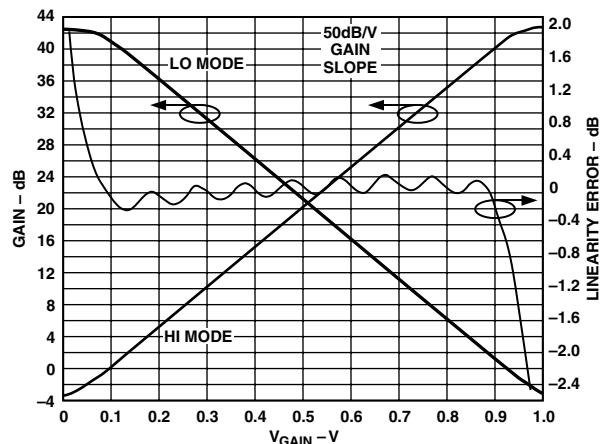

Figure 2. The gain function can be either an increasing or decreasing function of V_{GAIN} depending on the MODE pin.
The gain of the AD8367 can be an increasing or decreasing function of the control voltage, V_{GAIN}, depending on whether the MODE pin is pulled up to the positive supply or down to ground. When the MODE pin is high, the gain increases with V_{GAIN} as shown in Figure 2. The ideal linear-in-dB scaled transfer function is given by,
where V_{GAIN} is expressed in volts. Equation 1 contains the gain scaling factor of 50 dB/V (20 mV/dB) and the gain intercept of -5 dB which represents the extrapolated gain for V_{GAIN} = 0 V. The gain ranges from -2.5 dB to 42.5 dB for V_{GAIN} ranging from 50 mV to 950 mV. The deviation from (1), that is, the gain conformance error, is also illustrated in Figure 2. The ripples in the error are a result of the interpolation action between tap points. The AD8367 provides better than ±0.5 dB of conformance error over >40 dB gain range at 200 MHz and ±1 dB at 400 MHz.
The gain is a decreasing function of V_{GAIN} when the MODE pin is low. Figure 2 also illustrates this mode which is described by